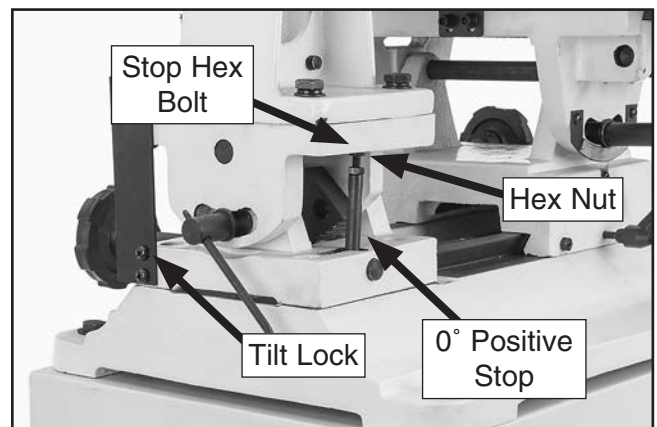

Figure 38. Positive stop adjustment.
1. Loosen hex nut securing the stop hex bolt (see Figure 38).